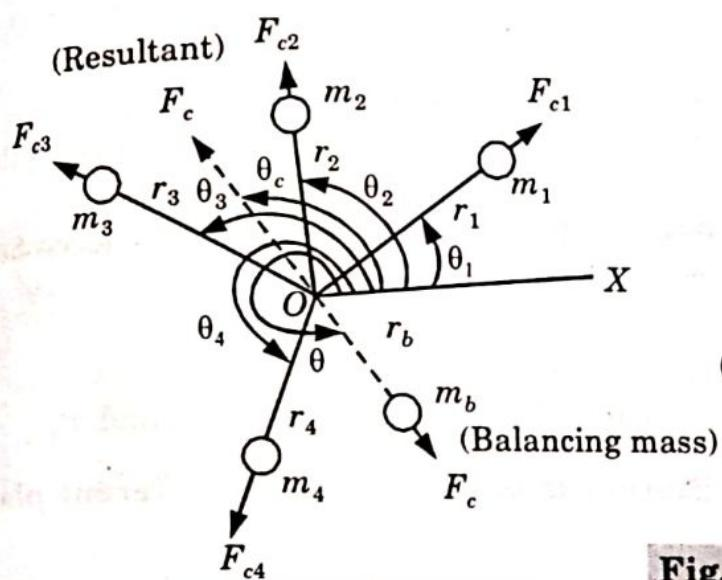

Fig. 4.2.1. Space diagram.
1. Consider four masses of magnitude m_1, m_2, m_3 and m_4 at distances of r_1, r_2, r_3 and r_4 from the axis of rotating shaft. Let $\theta_1, \theta_2, \theta_3$ and θ_4 be the angles of these masses with the horizontal line OX as shown in Fig. 4.2.1.